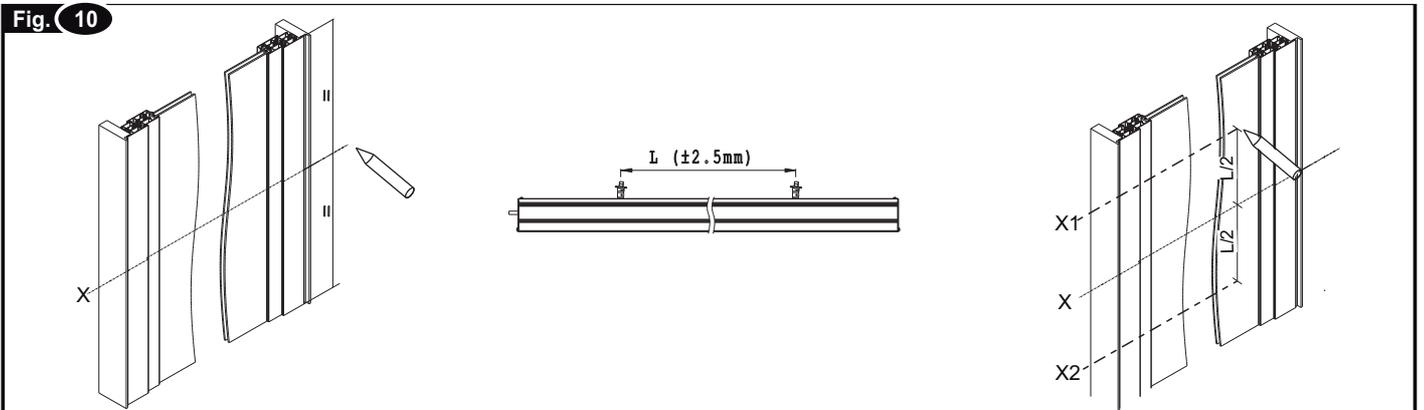

Fig. 11
- 3) **Fig. 11** - Trace axis **X1'** and **X2'**;
- 4) **Fig. 11** - With a suitable drill, create on the window the holes;